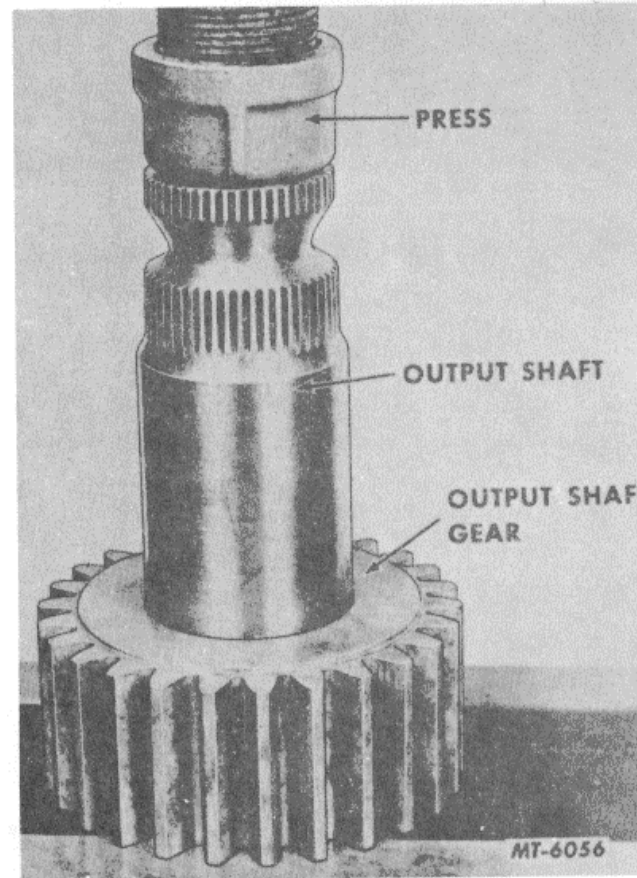

Fig. 34
17. Align the timing mark on output shaft gear with marked spline on the output shaft and reassemble. Use a press if necessary, Fig. 34.